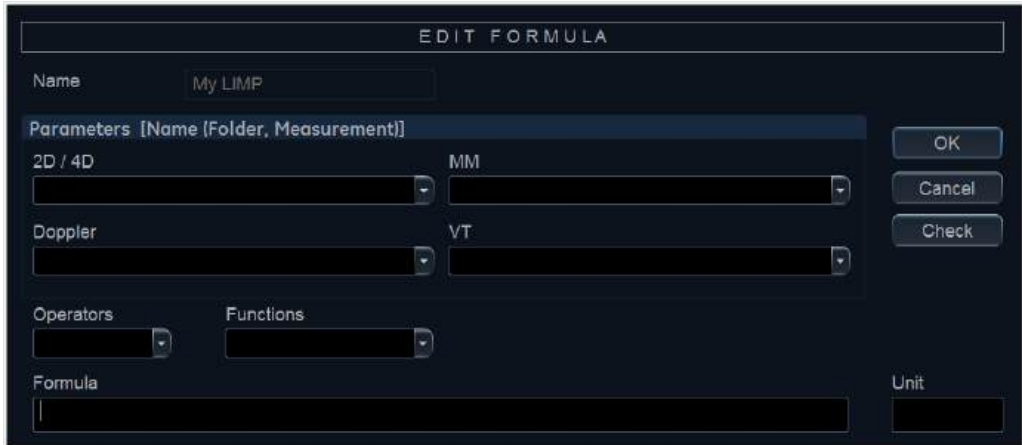

Figure 12-18. The Edit formula window
1. When creating a formula, enter the unit to use when displaying the formula output. E.g. if Y in the formula $Y=f(x)$ is to be displayed in cm, enter cm in the *Unit* field (see Figure 12-18 on page 12-30).